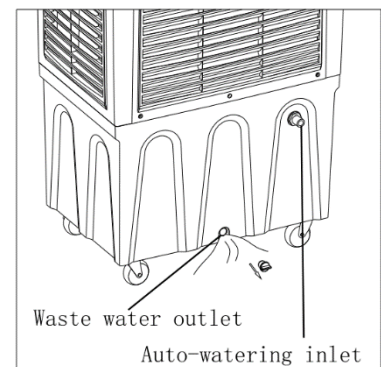

fig.3
- b) After some time operation, dust and dirt may occur in water tank. It is recommended to change the water and clean water tank frequently.He waste water in the water tank can be discharged from the water outlet on the back cabinet.(show as fig.3)